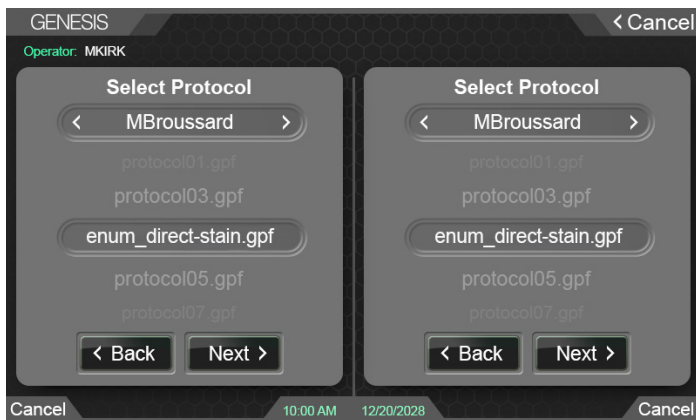

Fig. 20. After a successful Self Test, the protocols can be selected.
10. When the Self Test is complete, select Enumeration - Direct Stain from the protocol drop-down list (Figure 20).